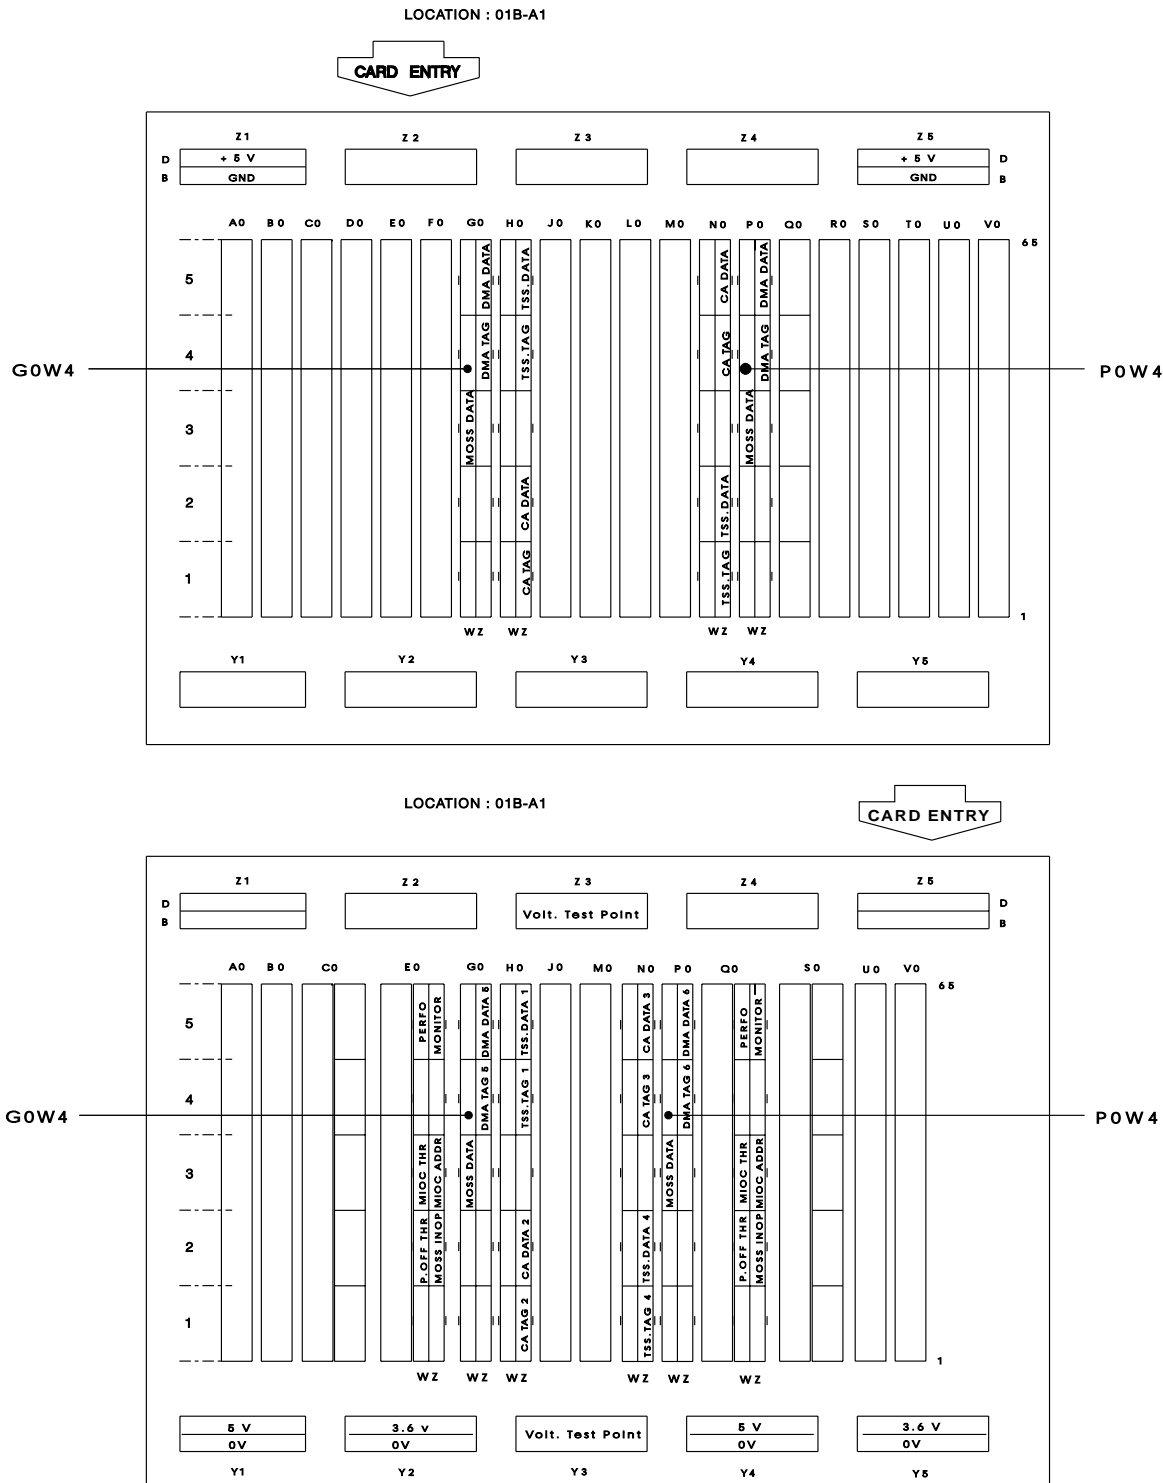

Figure 4-17. SACU Boards for 3745 Model 21A or 41A (Top) 31A or 61A (Bottom)
- Step 10. \_\_\_\_ Using the tool PN 71F9877 remove the dummy connectors in locations POW4 and GOW4 of the SACU board (see Figure 4-17 on page 4-18).